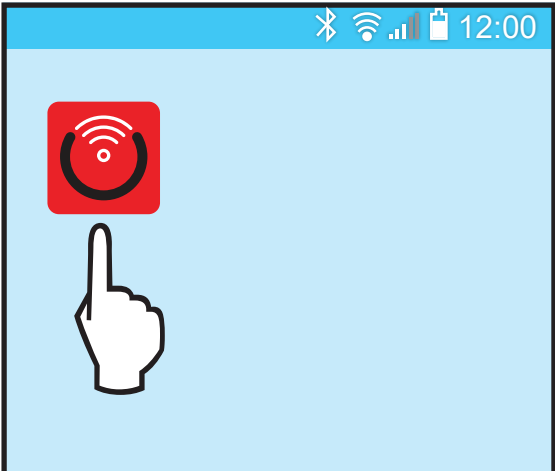

Figure 8. Find your Raymote Mobile App Icon
Once the user registration is complete, a user can begin to add new devices via the Raymote mobile app. See Figure 8.
2. Find the Raymote mobile app icon on your device. See Figure 8.